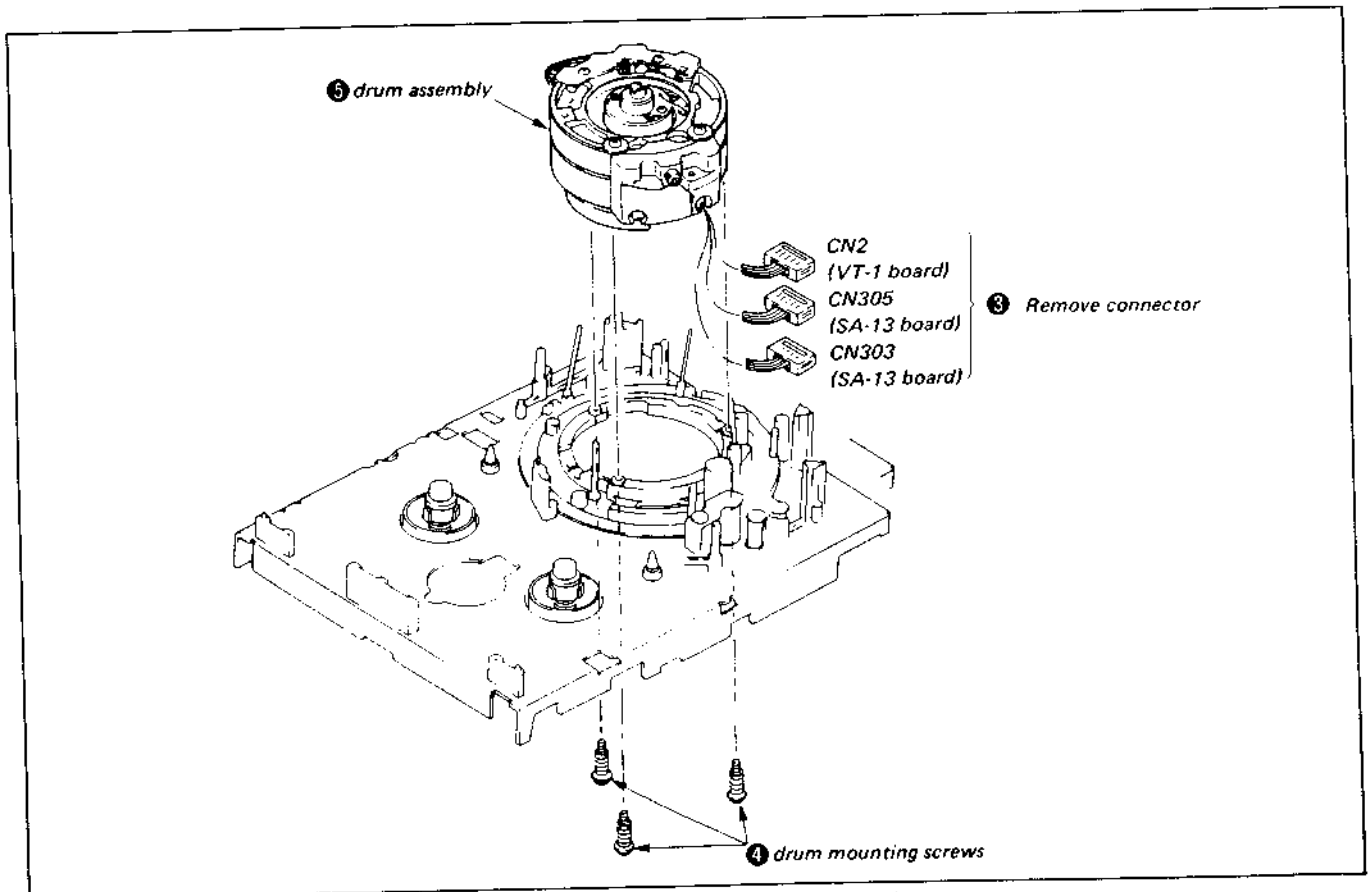

Fig. 3-6. Removal of the drum assembly
- 4) Remove the 3 connectors **3** from the rear of the chassis as shown in Fig. 3-6.